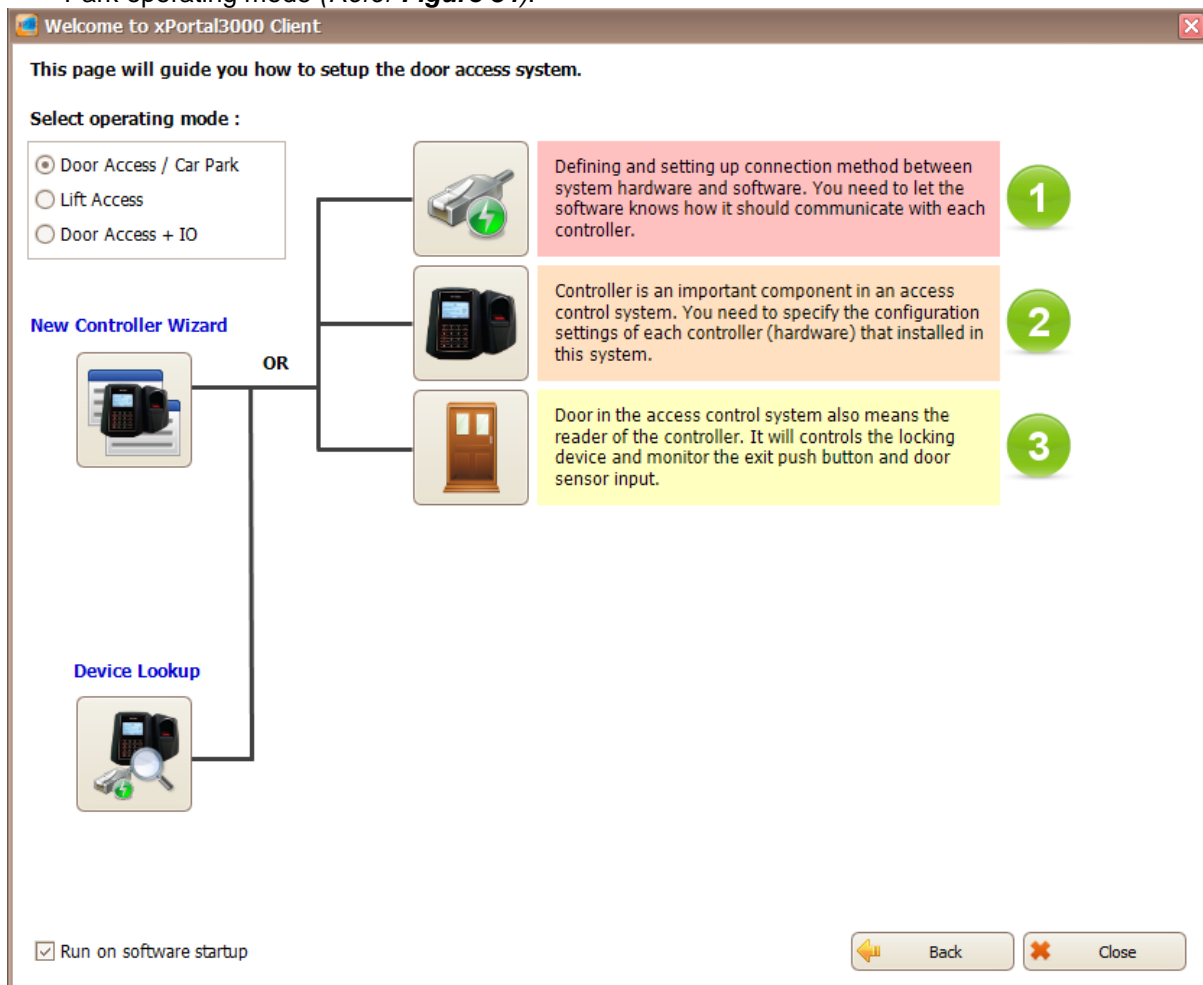

Figure 34 - Startup Wizards (Door Access/ Car Park)
2. The following window will be shown. You can select the operating mode such as Door Access/ Car Park, Lift Access and Door Access + IO. For this example, we will choose Door Access/ Car Park operating mode (Refer **Figure 34**).